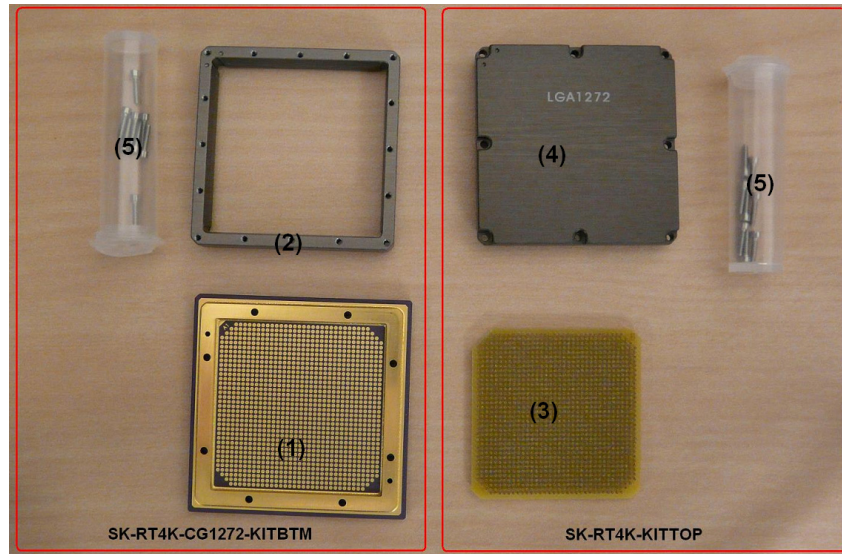

Figure 1 • Parts of CG1272 to LG1272 Adapter Socket
Figure 1 shows the complete CG1272 to LG1272 assembly kit. SK-RT4K-KITTOP contains an interposer (3), a socket lid (4), and eight screws (5). SK-RT4K-CG1272-KITBTM contains a ceramic adapter (1), socket housing (2), and eight screws (5).
| Revision 2 (October 2012) | Updated Figure Title for Figure 1 (SAR 41789). | 2 |
| | Figure 1 • Parts of CG1272 to LG1272 Adapter Socket | 2 |